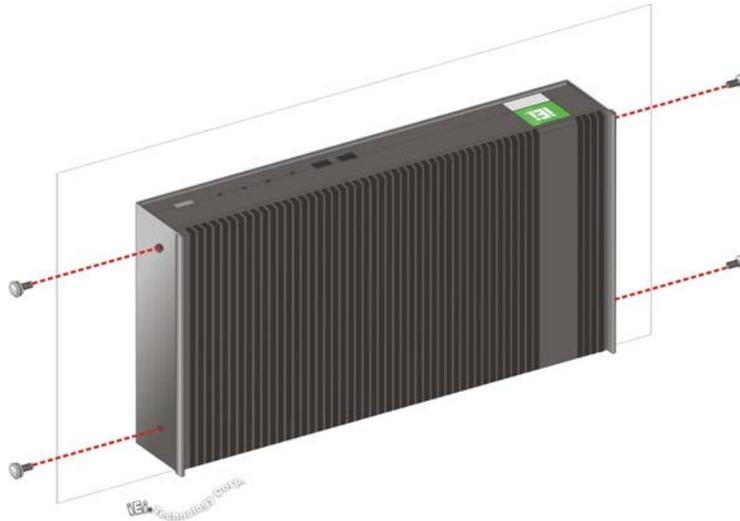

Figure 3-10: Mounting the System
Step 5: Secure the IDS-H61 to the mounting bracket with four M4 retention screws (Figure 3-10).